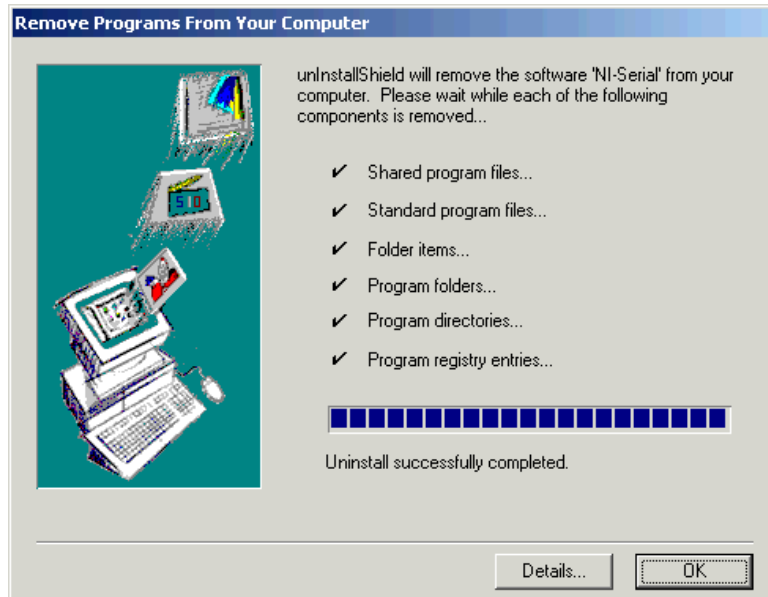

Figure B-3. Successful Uninstallation
3. Select **NI-Serial** and click on the **Change/Remove** button. The uninstallation program removes all folders, utilities, and registry entries associated with the NI-Serial software. Figure B-3 shows the results of a successful uninstallation.